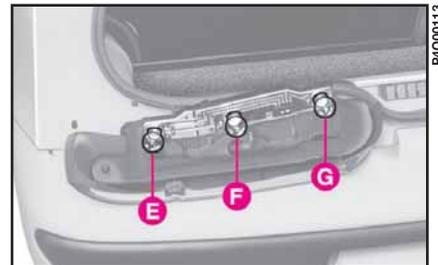

fig. 27
3) remove bulbs **fig. 27**, pushing them slightly and turning them anti-clockwise;